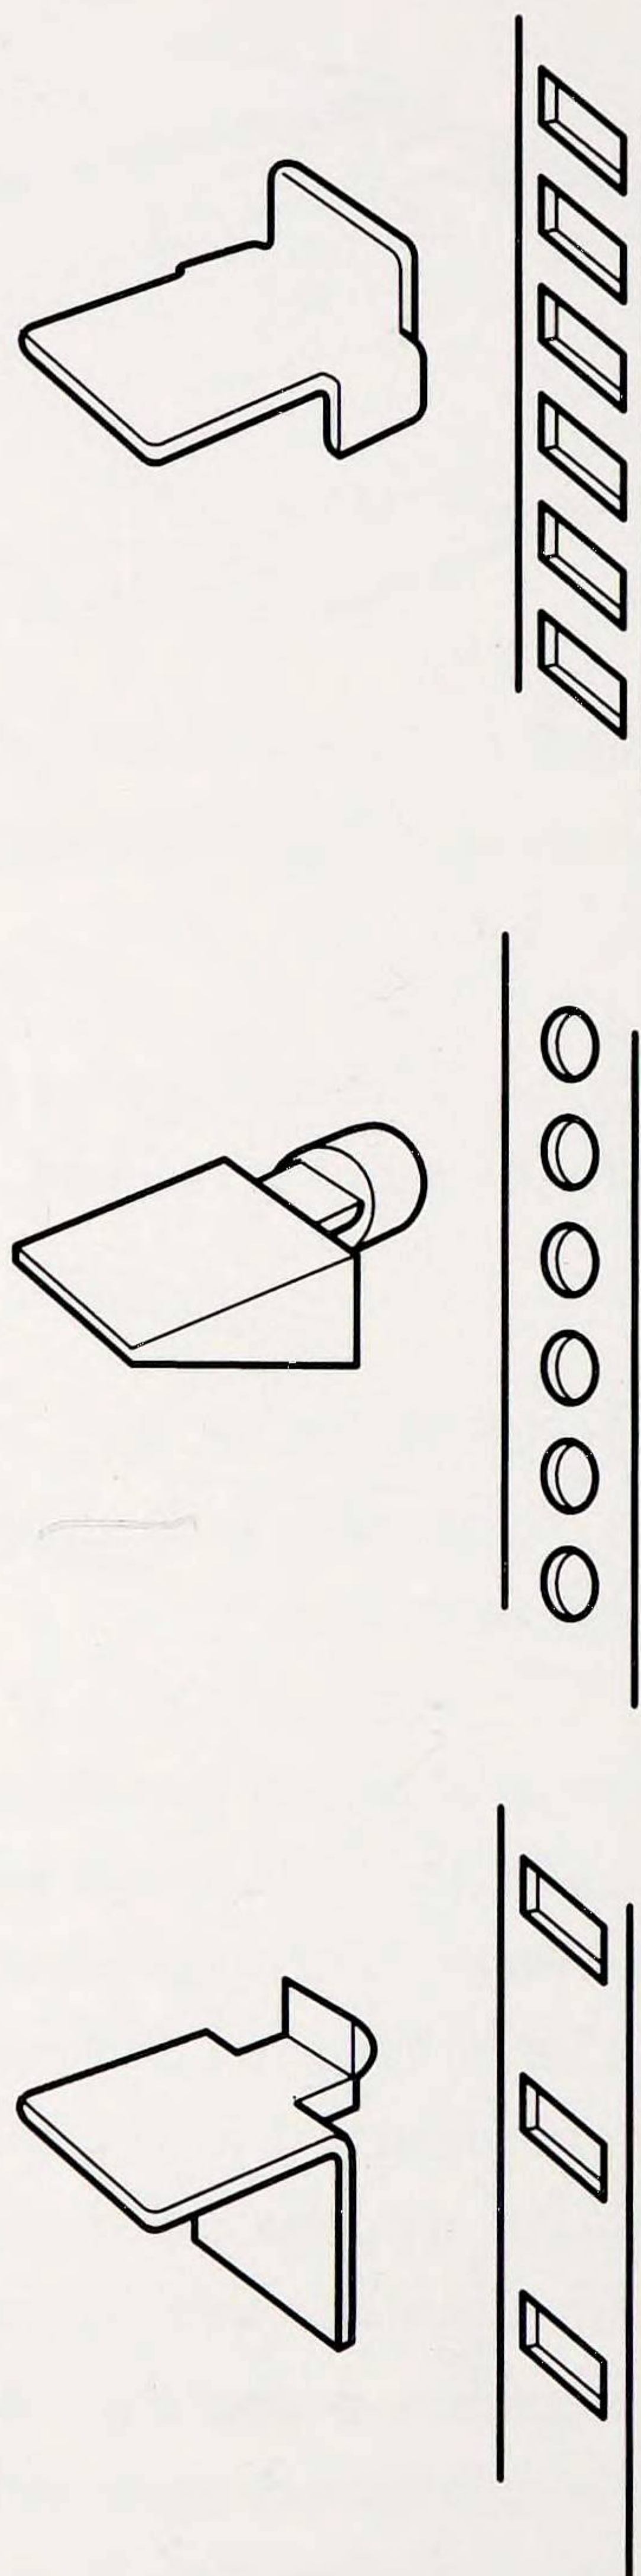

Fig. 9 Fittings which clip into vertical perforated strips slotted into the cabinet side
3. Finally, you could opt for fittings which are based on pierced-metal strips which fit into grooves routed in the sides. These proprietary fittings require you to screw a metal strip into a routed groove. There are usually a series of perforations into which shelf clips fit (Fig. 9). When using glass shelves, select a fitting that will suit the design.